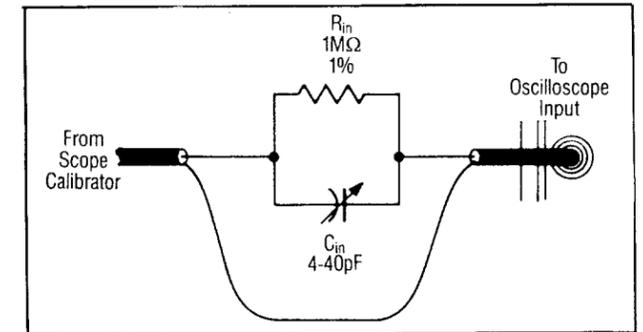
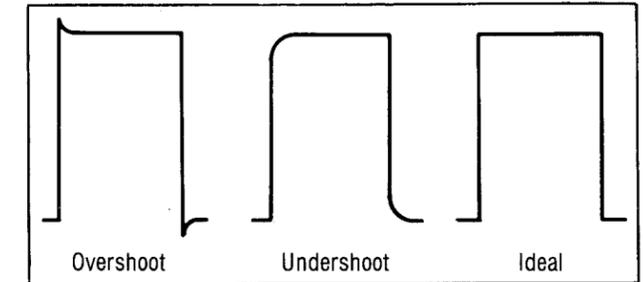

Fig. 5. Network for Input Attenuator Adjustment.
Fig. 6. Adjusting 1 kHz Square Wave Characteristics.
- Using the input circuit shown in Fig. 5, connect an oscilloscope calibrator to the channel 1 input. Set the calibrator for a 1 kHz square wave at 50 mV p-p and set the oscilloscope CH 1 VOLTS/DIV control to 5 mV. Adjust the oscilloscope controls for a stable display of about three cycles of the channel 1 signal.
- Adjust Cin (in the input circuit shown in Fig. 5) for optimum wave shape as shown in Fig. 6.
- Again using the input circuit shown in Fig. 5, connect an oscilloscope calibrator to the channel 2 input. Set the calibrator for a 1 kHz square wave at 50 mV and set the oscilloscope CH 2 VOLTS/DIV control to 5 mV. Adjust the oscilloscope controls for a stable display of about three cycles of the channel 2 signal.